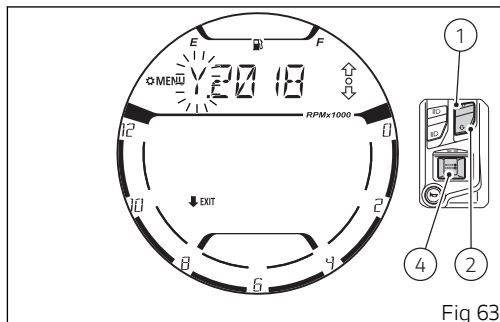

Fig 63
By pressing button (1) or button (2) the letter "Y." will start flashing (Fig 63). Now, still using button (1) or button (2), it is possible to scroll through the items year "Y.", month "M." and day "D." displayed flashing and with the currently set values.